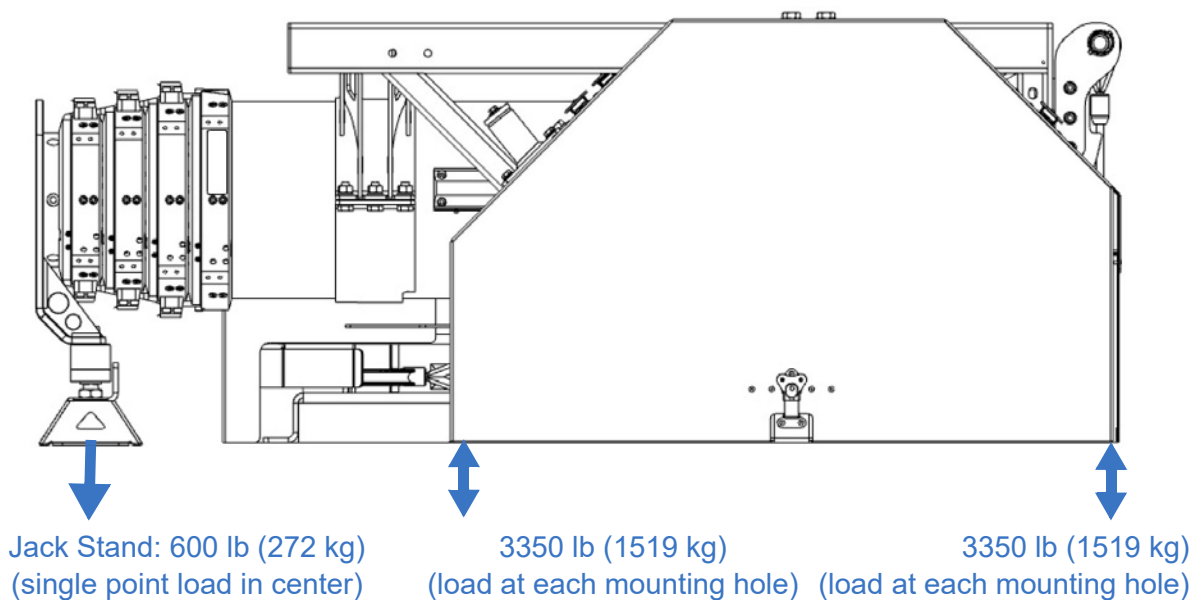

Figure 5-1 Maximum Reaction Loads on Mounting Structure (Stiletto AL Shown in Tilt System)
4. The mounting structure must have sufficient room to mount the system. The mounting structure must be capable of holding the forces required by the bolts. Check the strength and rigidity of the mounting structure where the system is to be attached. Reinforce as necessary. It is important that both the base and the jack stand be securely mounted to a mounting surface which will not overturn during operational loading of the mast. The surface must be reinforced to withstand the loads at the different points on the tilt system that can be expected during operation as shown in Figure 5-1. These are maximum load estimates placed downward and upward on the mounting surface by the tilt system and mast.